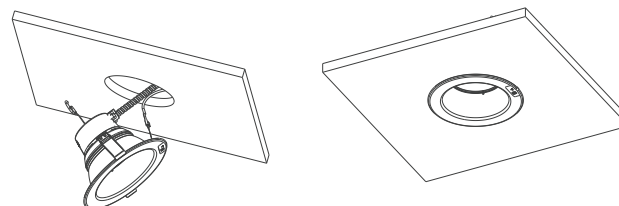

Figure 4-3
4. Plug in the quick connector and proceed to follow the standard fixture installation instructions to finalize the installation (refer to Figure 4-3).